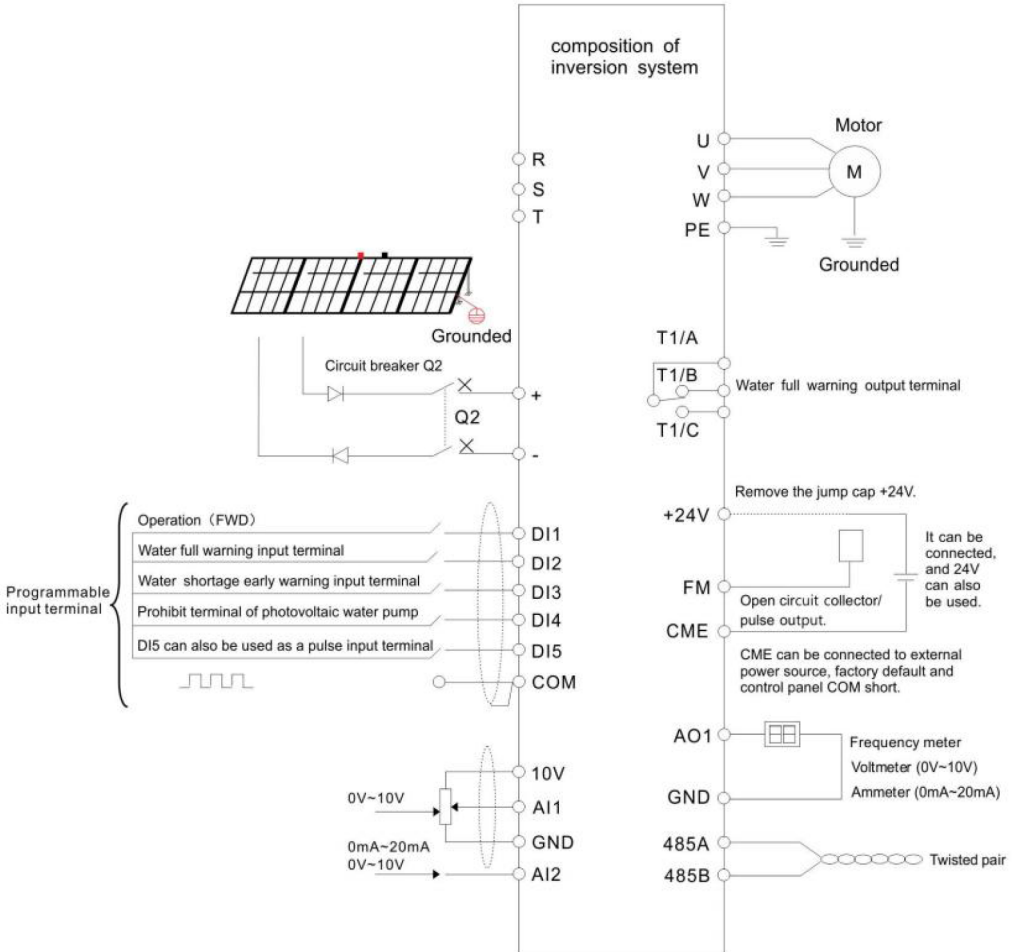

Figure 3-1 Reference wiring diagram for power supply of solar panels
3.1.1 Wiring by reference to Figure 3.1, and check the wiring whether it is correct. If there's no mistake, Q2 can be closed.